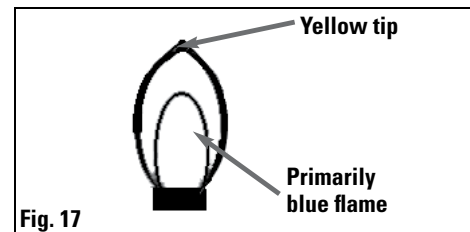

Fig. 17
- 2) Check your flame. Your burner has been preset by the manufacturer for optimal flame performance. A blue flame, possibly with a small yellow tip, is the result of the optimal air and LP gas mixture. (FIG 17)